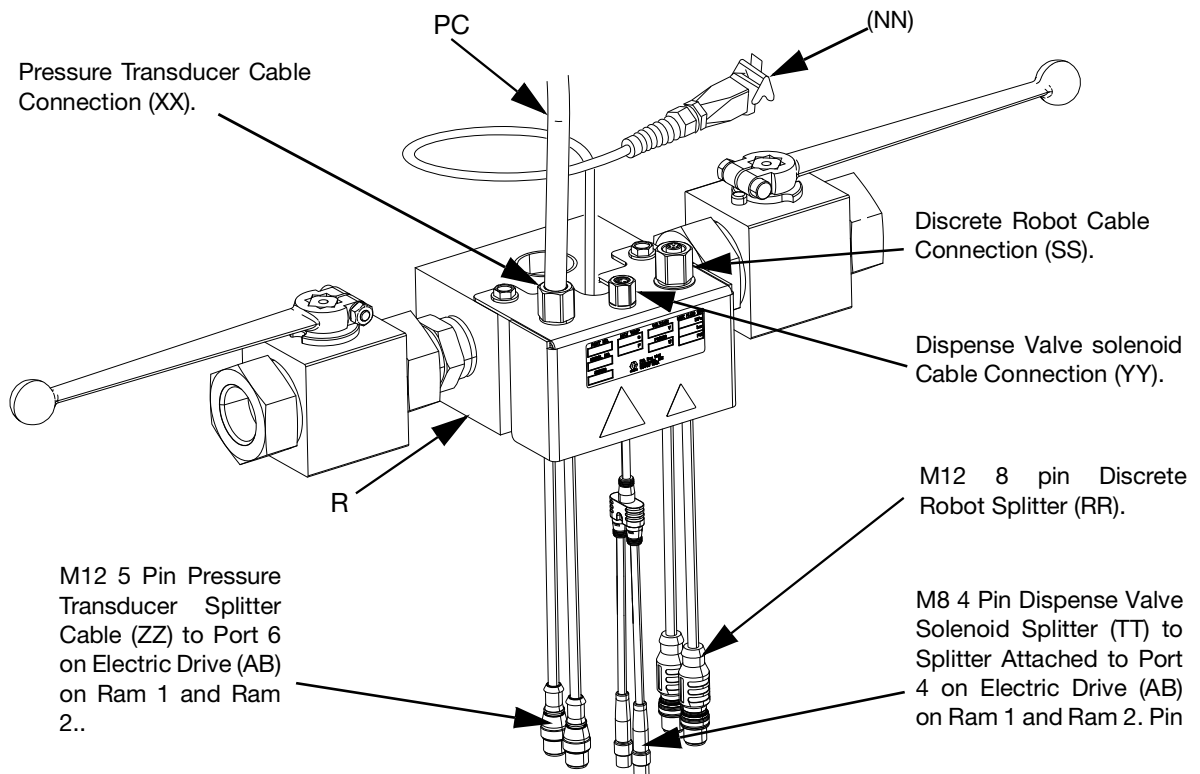

FIG. 23
1. If using a Single iQ Ram Supply System, connect the pressure transducer cable (PC) from dispense valve (B) to Port 6 on the Electric Driver (AB). See **Electric Driver Communication Connections** for Single Rams on page 16.
- a. Connect the Pressure Transducer Cable (PC) from the Dispense Valve (B) to the Tandem Block Valve Pressure Transducer Splitter. See FIG. 23.
- b. Connect one male end of the M12 5 pin Pressure Transducer Splitter cable (ZZ) on the Tandem Block (R) to Port 6 on the Electric Driver (AB) on Ram 1. The second male end goes to Port 6 on Ram 2. See **Electric Driver Communication Connections** for **Tandem Rams** on page 17.